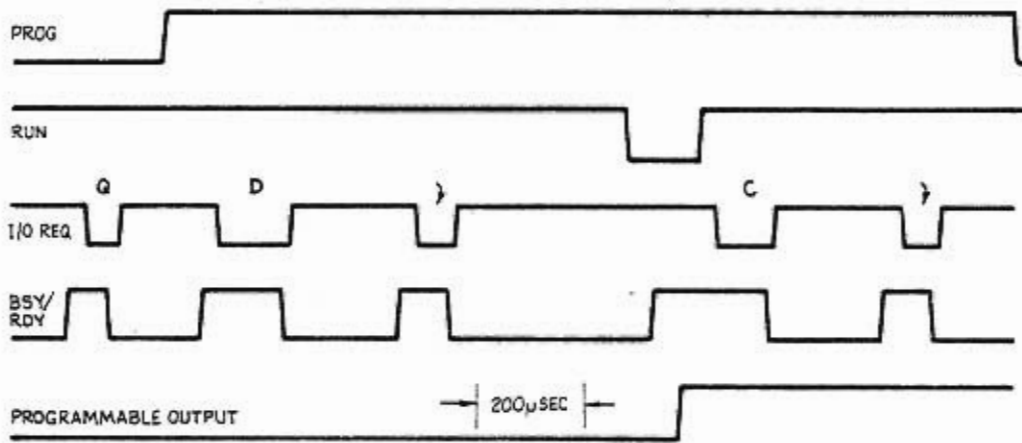

Figure 7.2 DOITNOW (Run) Timing Diagram.
After entering program code into the CY512 program buffer, and exiting the program entry mode via the "Q" command, the host computer should wait for the PROG line (pin 31) to go high, indicating that the CY512 is no longer in the program entry mode. After testing the RDY line to be sure that it is high, the host computer can send the "DOITNOW" command (D), as shown in Figure 7.2. Using a 6MHz crystal, the CY512 will be busy approximately 150 microseconds with the "D" command and approximately 400 microseconds after detecting the end-of-command code ( $\mu=0DH$ ). The CY512 will then lower the RUN line (pin 32), raise the RDY line (pin 27) and begin executing the program. If the first program instruction is BITSET (and pin 34 has been previously cleared) the Programmable Output line (pin 34) will go high in less than 100 microseconds from the rising edge of BUSY/RDY.